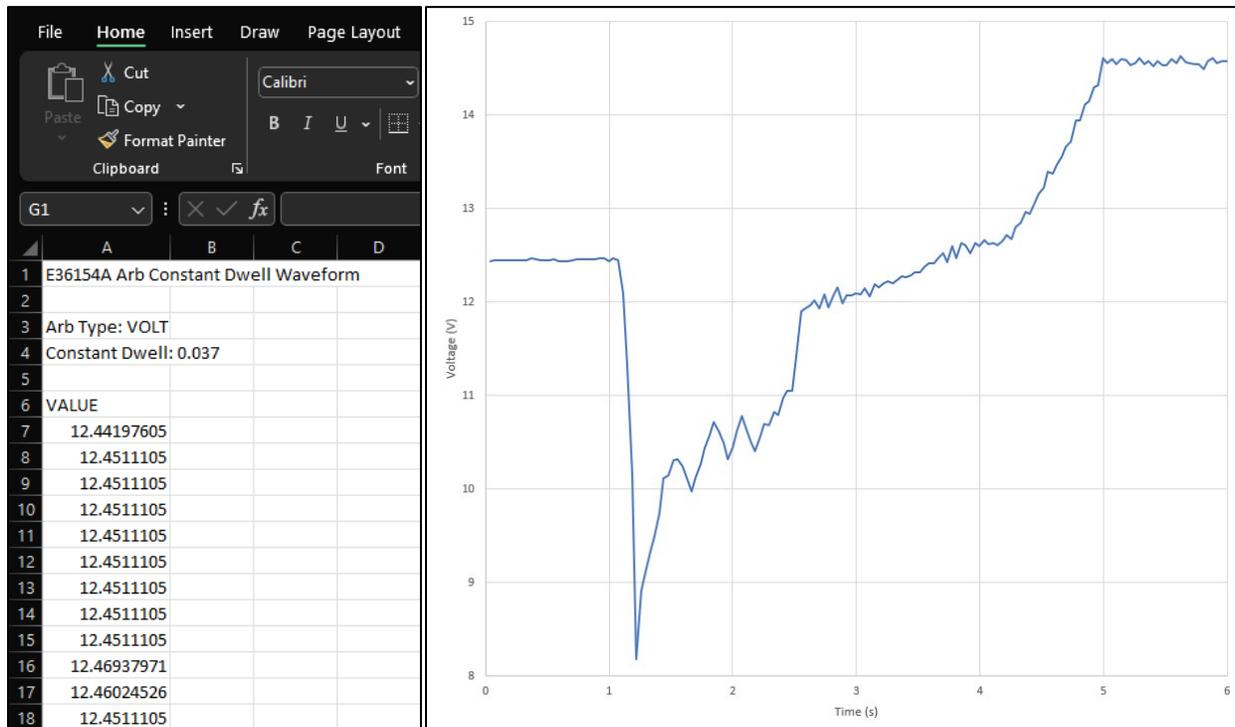

Figure 15. Vehicle voltage transient captured using an oscilloscope (right) and its CSV formatted data (left)
The ISO7637 and ISO16750 standard provides generic guidelines for the manufacturer to achieve adequate power transient immunity; however, the guideline only estimates what the vehicle might experience once deployed. The waveform in Figure 15 (right) is the actual waveform captured with an oscilloscope during the vehicle cranking operation, and the waveform shows a stark difference from the ISO16750-2 –4.6.3— Starting Profile waveform. In particular, the actual cranking operation produces a complex voltage transient waveform, and the voltage typically settles at a higher voltage of around 14.5V when the vehicle's alternator kicks in to charge the battery. It is also possible that the ECU receives a voltage higher than the allowed range, specifically when the alternator's output voltage is not properly regulated, or there is a failure on the voltage regulator component. In this case, an over-voltage protection must be in the ECU circuitry to prevent failure. Figure 15 (left) represents the actual voltage transient in CSV format, readable by the Keysight E36154A 800W Autoranging Benchtop Power Supply. The subsequent subchapter demonstrates steps to import and run the waveform playback using the power supply.
- As Figure 15 shows, convert the waveform data captured using the oscilloscope into instrument-readable CSV format.